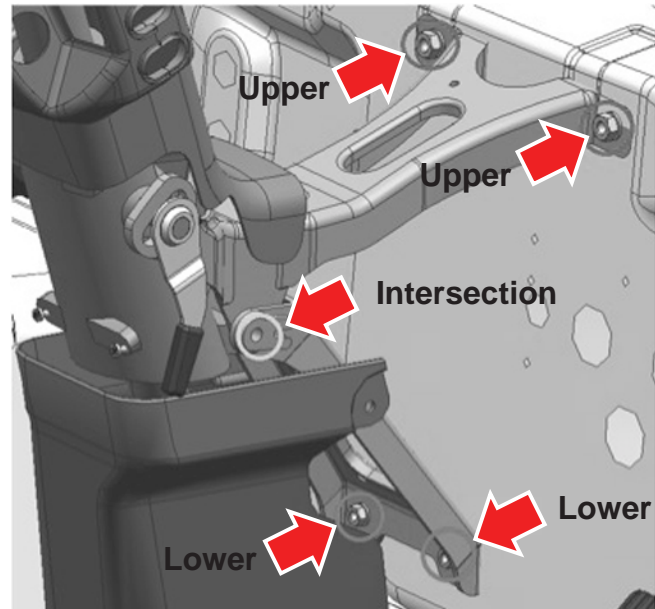

Figure 6-1
1. Remove 2 nuts from the upper steering column and discard. Replace with new nuts (GM280710BD01) and tighten to 38 ft-lb (52 N•m) of torque (see Figure 6-1).
2. Remove the bolt and nut from the intersection of the steering column and discard. Replace with a new bolt (S5000013-001) and a new nut GE280531BB01). Tighten to 19 ft-lb (26 N•m) of torque (see Figure 6-1).
3. Remove 2 nuts from the lower steering column and discard. Replace with new nuts (GE280708BD01) and tighten to 13 ft-lb (18 N•m) of torque (see Figure 6-1).